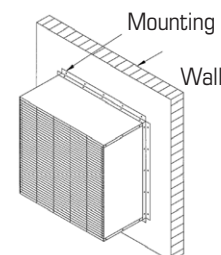

Figure 2 - Mounting Angles
- Attach (4) mounting angles to the fan housing and wall framing, (Refer to Figure 2).